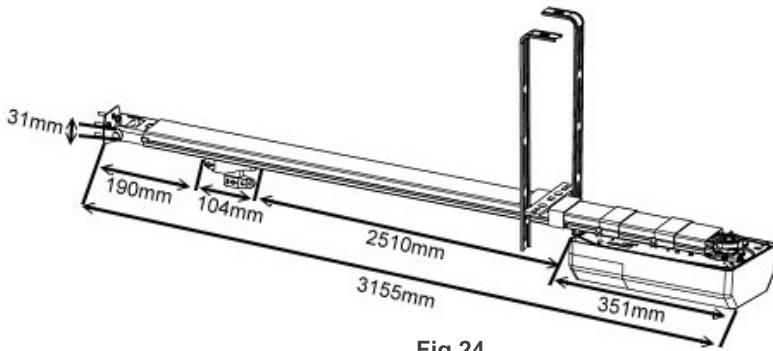

Fig 24
4. Steel track and motor dimensions (Fig.24).